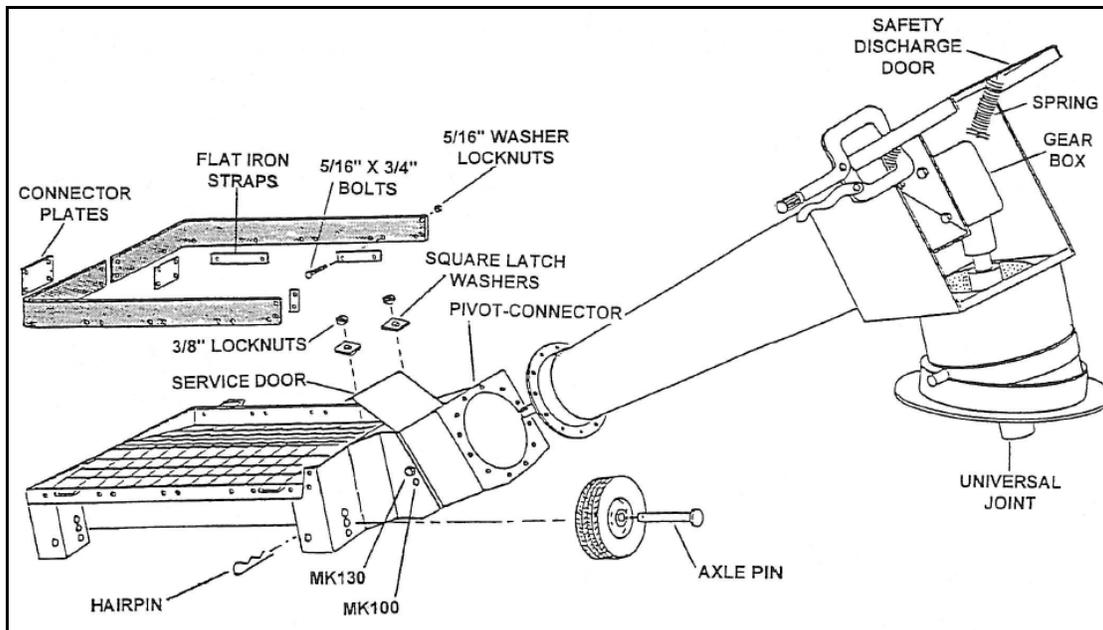

Figure 2
1. Attach the pivot-connector to appropriate MK100 or MK130 holes in hopper with two 5/8" x 1-1/2" bolts and locknuts (Figure 2). Do not over-tighten; tighten snug only as these bolts act as pivot points.
7. Attach the two piece rubber extension to inside of hopper lip with 5/16" x 3/4" bolts and washer locknuts and the flat iron straps provided plus the two piece extension connector plates (Figure 2).
8. Attach the four pneumatic wheels to the four hopper corners with the axle pins and hairpins. The offset portion of the wheel must rest against the hopper. You have a choice of three height settings (Figure 2).